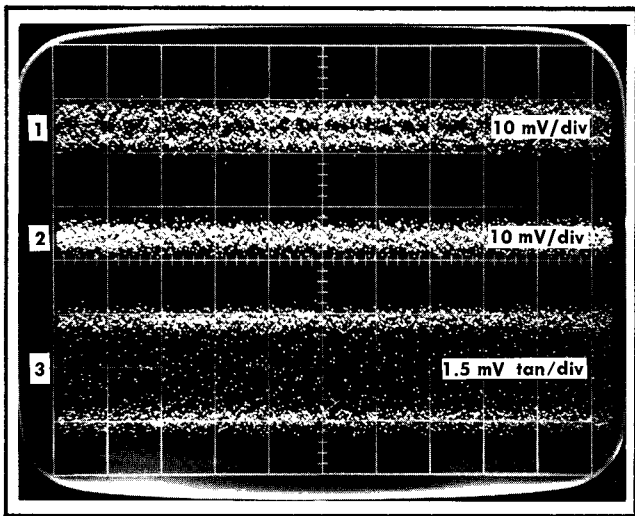

Fig. 5-13. Triple exposures of Tangential noise measurement, step 10.
e. Refer to Fig. 5-13 during the following noise measurement procedure.
(1) Obtain a display of two traces as shown at point (1) of Fig. 5-13. Adjust the variable attenuator until the two traces blend together just to the point (2) at which they appear as one trace.
(2) Set the Type 284 Square Wave Amplitude control to 1.0V ($\times 10$ signal amplitude). The display (3) now has a tangential deflection factor of 1.5 mV/div. ($E_{\text{tangential}}$ per division is equal to the Type 3S2 Units/Div setting of 10 mV divided by 2, times 3 divided by 10 = 1.5 mV/div.) Therefore, the 3 mV tangential noise limit includes 2 graticule divisions (3) of Fig. 5-13. Check that the bottom edges of the two traces are not more than 2 divisions apart. Waveform (3) Fig. 5-13 measures as 3 mV tangential noise.
The noise display (3 of Fig. 5-13) has a noise deflection factor based upon the signal amplitude, the Type 3S2 Units/Div switch setting, the fact that the final trace separation is twice the RMS noise, and that the tangential noise is then 3 times the RMS noise. The square wave signal amplitude that makes two traces appear as one sets the trace separation to twice the RMS noise. The procedure used here then